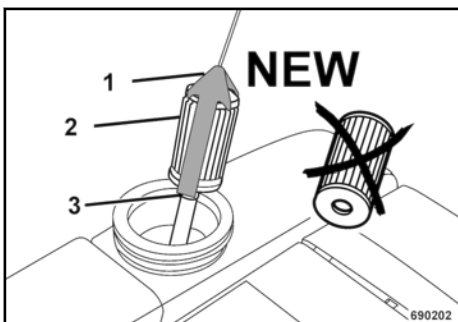

Fig. 76
Pull the holder (1) ↗ Fig. 76 with the fuel filter (2) by the cord out of the tank.